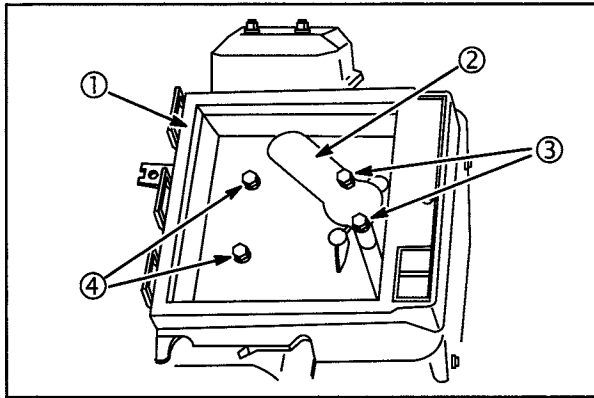

Fig. 41
2. Guide breather tube onto nipple on breather. Install air cleaner base (1) on carburetor and support bracket, **Fig. 41**.